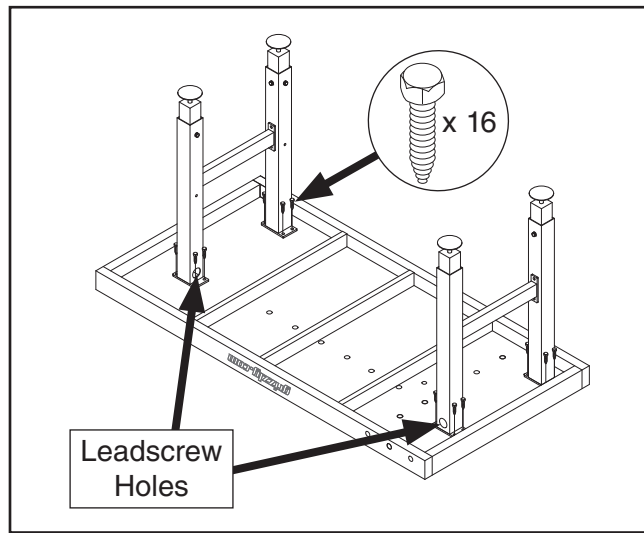

Figure 13. Leg assemblies installed.
Note: In next step, take care to properly orient leadscrew holes in leg assemblies with holes in workbench top to accept vise leadscrews in later step (see **Figure 13**).
13. Secure leg assemblies to workbench top with (16) $\frac{5}{16}$ " x 1" lag screws, as shown in **Figure 13**.